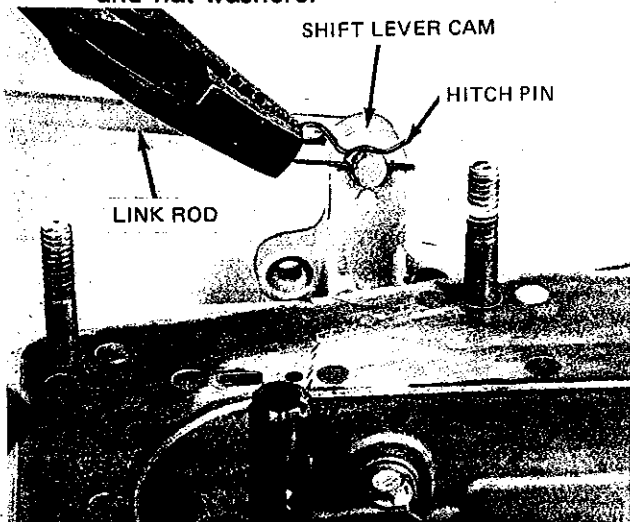

Figure 21
- (1) Remove the engine assembly (Para. 4B).
- (2) Remove the swivel bracket assembly (Para. 12).
- (3) Remove the nut, washer and Viton seal from the water tube.
- (4) Remove the lower adaptor plate and gasket from the exhaust deflector.
- (5) Remove the hitch pin from the link rod at the shift lever cam (Figure 21).